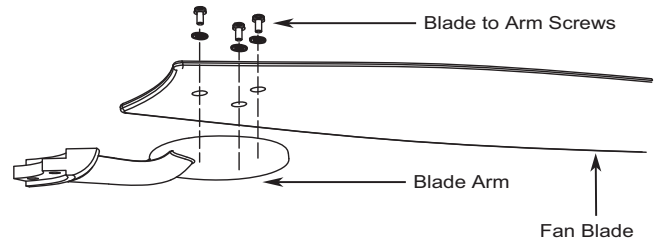

Fig. 11
- ❖ Attach each fan blade to a blade arm with three 3/16" x 7.5 mm blade screws and three 3/16" fiber washers (see figure 11). DO NOT OVER TIGHTEN THESE SCREWS.